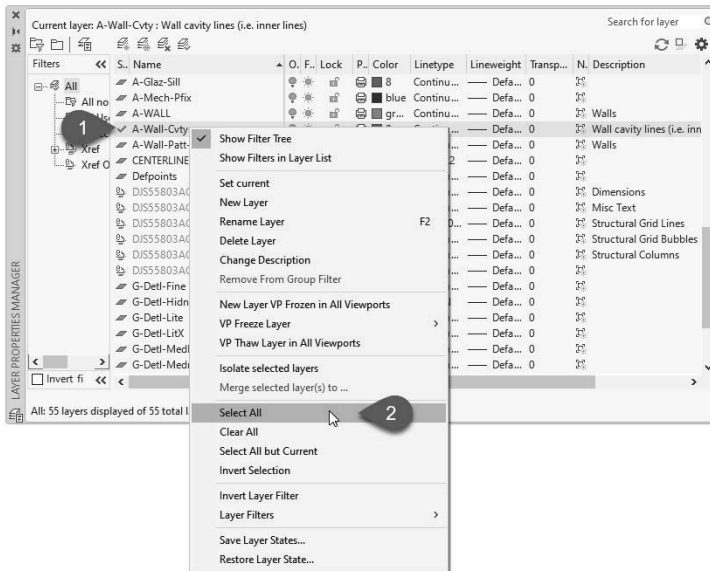
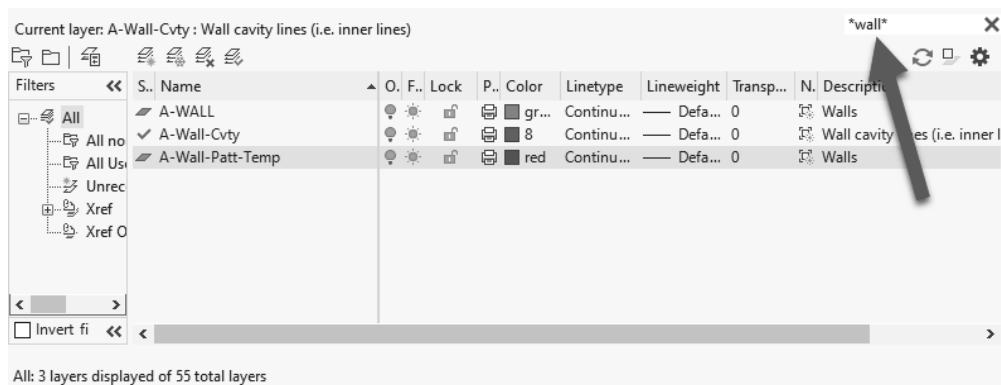

FIGURE 4-5.5 Layer Manager; right-click and pick “select all”
FIGURE 4-5.6 Layer Manager; search for “wall” layers
- Another method is to open the *Layer Manager* and right-click on any *Layer* name and click “**Select All**” from the pop-up menu. Then you can click any *Layer* icon that is “off” and all *Layers* will be turned “on” (see Figure 4-5.5).
Take a moment and notice the other tools available in the right-click pop-up menu shown in Figure 4-5.5.
In the text box in the upper right of the *Layer Manager* (that has the light gray words “Search for layer”; see Figure 4-5.5) you can type something like ***grid*** and see only the *Layers* that have the letter/word “grid” in them (e.g., A-Grid, A-Grid-Iden, DJSAGD01 | S-Grid, etc.). See Figure 4-5.6 below for an example where only the *Layers* with the word “wall” are listed.